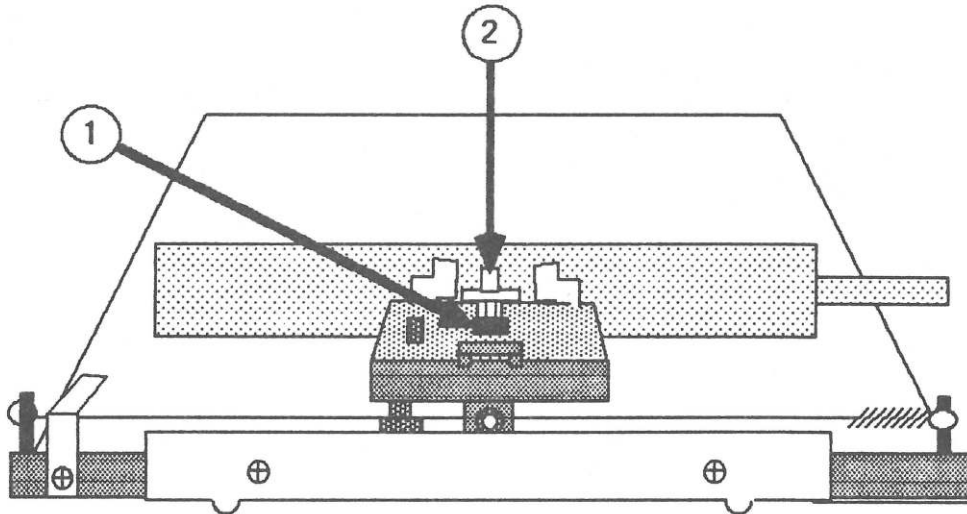

FIGURE 12
3. Grasp the print head connector (Figure 12, #1) by the sides and progressively pull up to disconnect it. Rocking the connector back and forth as you lift will make it easier to remove.
4. Grasp the print head (Figure 12, #2) by the sides and pull up to disconnect it.
2. Holding the print head by the sides, lower it into the grooves located at the front of the ribbon cassette holder. (See Figure 12.)
3. Carefully reconnect the print head connector to the circuit board connector at the center of the ribbon cassette holder. (See Figure 12, #2.)